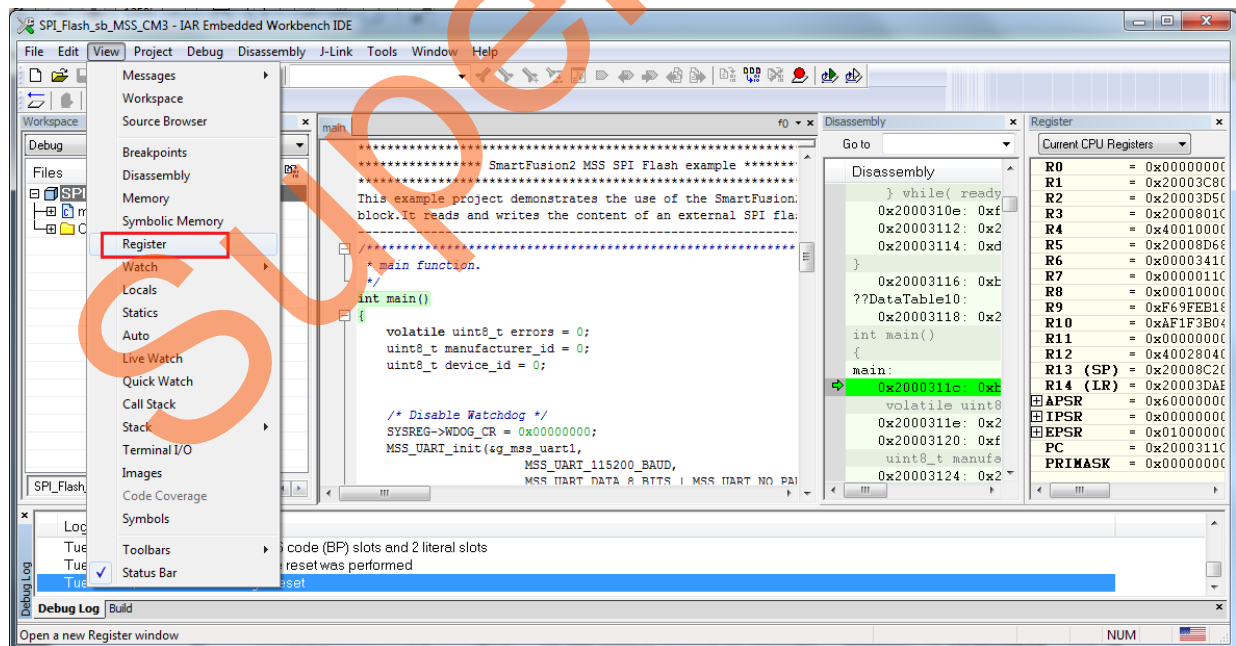

Figure 46 • Values of Cortex-M3 Internal Registers
7. Click **View > Register** to view the values of the ARM® Cortex®-M3 processor internal registers, as shown in Figure 46.